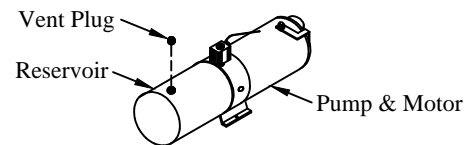

Figure 21: Vent plug.
7. **Install** the vent plug provided into the pump reservoir (Figure 21).